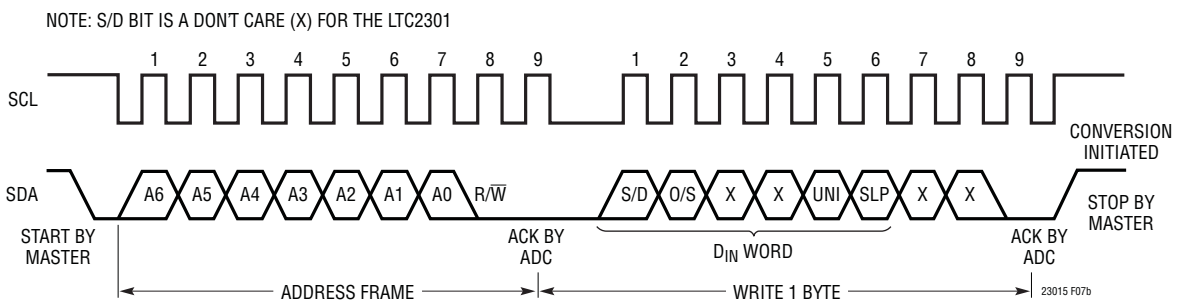

Figure 7b. Timing Diagram for Writing to the LTC2301/LTC2305
When the LTC2301/LTC2305 is addressed for a write operation, it acknowledges by pulling SDA LOW during the LOW period before the 9th cycle and acts as a receiver. The master/transmitter can then send 1 byte to program the device. The input byte consists of the 6-bit  $D_{IN}$  word followed by two bits that are ignored by the ADC and are considered don't cares (X) (see Figure 7b). The input bits are latched on the rising edge of SCL during the write operation.